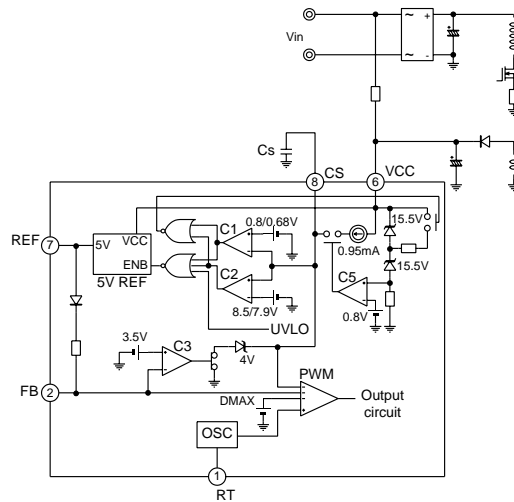
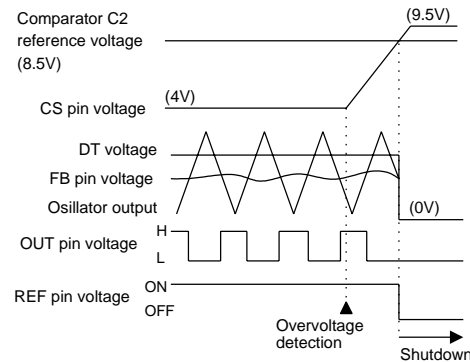

Fig. 16 Overvoltage shutdown circuit
Fig. 17 Overvoltage shutdown timing chart
The IC contains a Vcc overvoltage protection circuit to protect the IC from damage by overvoltage. Figure 16 shows the overvoltage protection circuit. Figure 17 is a timing chart that illustrates overvoltage protection operations. Overvoltage is detected if the supply voltage Vcc rises to 31.8V ( $I_{cc}=14mA$ ) or more and current flows in the built-in zener diode. The output of comparator C5 then goes high and the constant current source (0.95mA) raises the CS pin voltage. When the CS pin voltage exceeds 8.5V, the output of comparator C2 goes high to turn off the 5V REF circuit. The IC then enters the latched mode and the IC output is put in the off (low voltage) state. When latched mode, the IC current consumption is 45µA (typ) ( $V_{cc}=10V$ ). This current must be supplied through the startup resistor. The overvoltage shutdown operation can be reset by lowering the supply voltage to below 9.0V or forcing the CS pin voltage below 7.9V. (When you want to enable Vcc overvoltage shutdown at a desired voltage, see item 6 in "Design advice.")